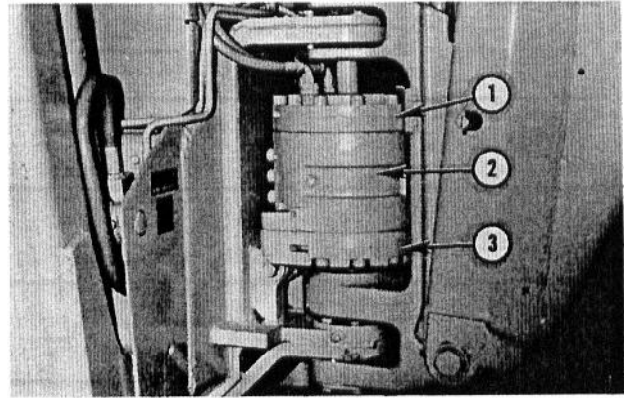

Fig. 5 — Rotary Swing Cylinder — Installed on MF 54A Backhoe
5. ROTARY CYLINDER ... is used to swing the Backhoe, see Fig. 5. This cylinder is divided into two